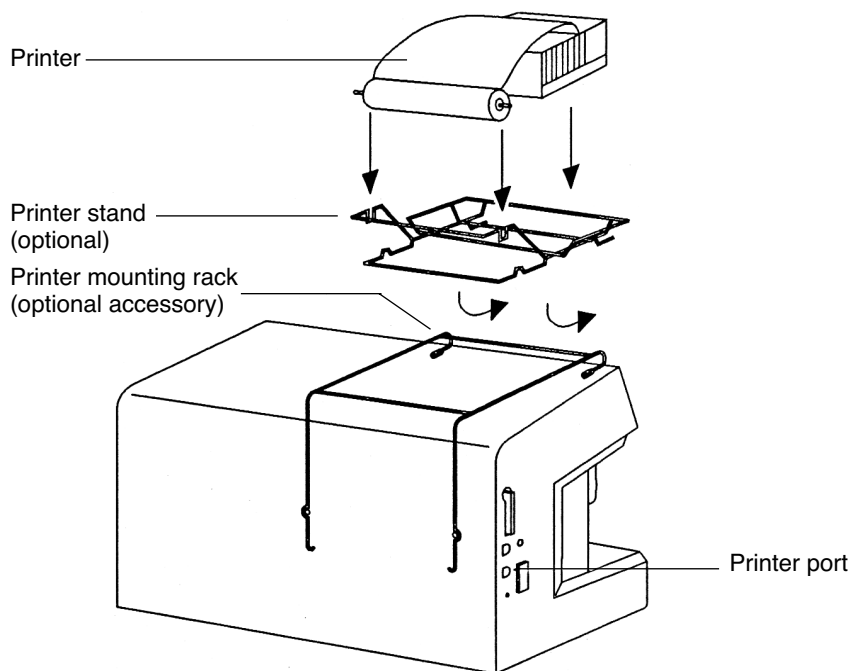

Figure 5. Printer installation on the Synergy Peptide Synthesizer
Plug the mini-DIN terminal of the cable into the printer port on Synergy (Figure 5 on page 6).
5. **Attach the Printer.** To conserve workspace, you may mount the printer on top of Synergy. An optional printer mounting rack (shown in Figure 5) may be purchased from Applied Biosystems.